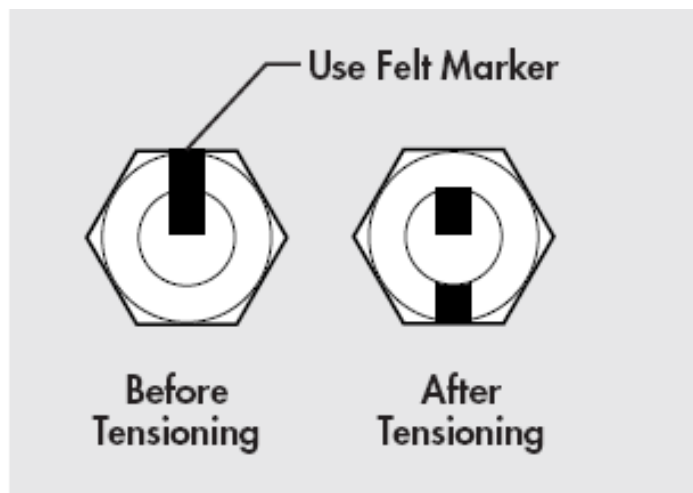

Figure 1-1b:
- **1/2 TURN (180°)** as shown in **Figure 1-1b, longer than 4 diameters** (“After Tensioning”)